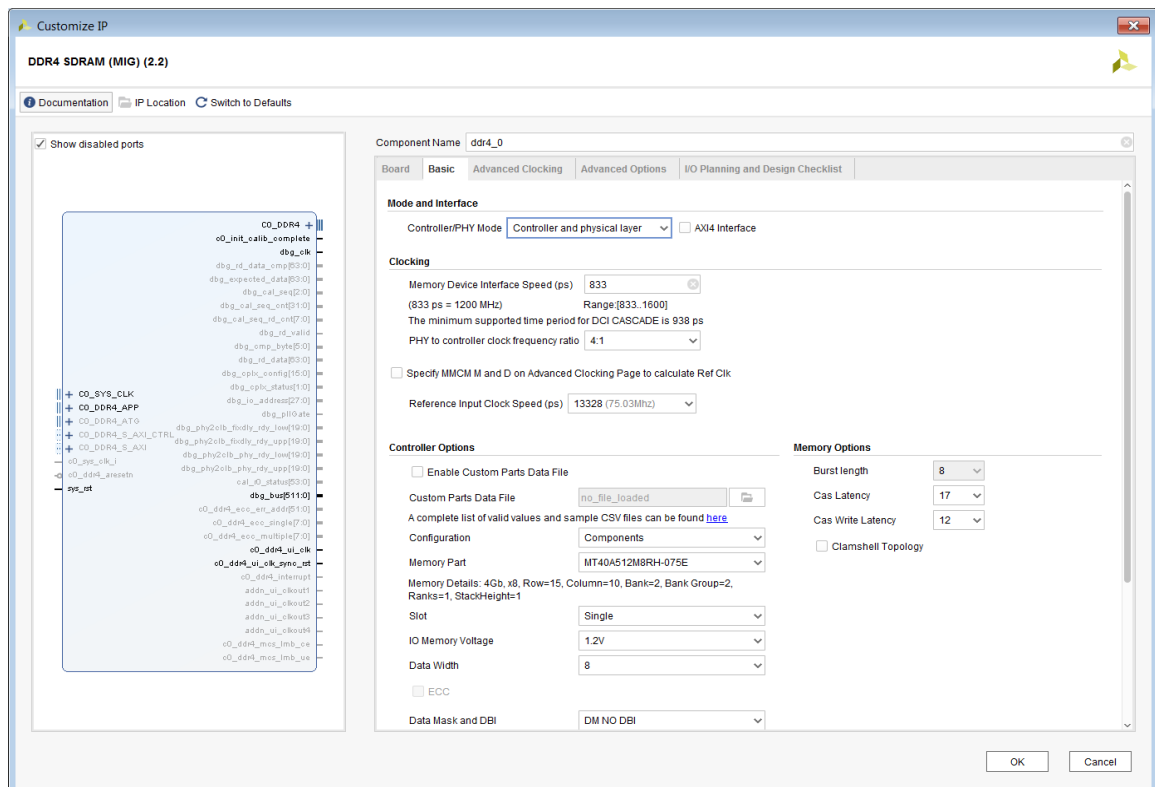

Figure 4-2: Configuring a Memory IP Instance
- Double-click the desired interface to open the Customize IP dialog box (Figure 4-2).